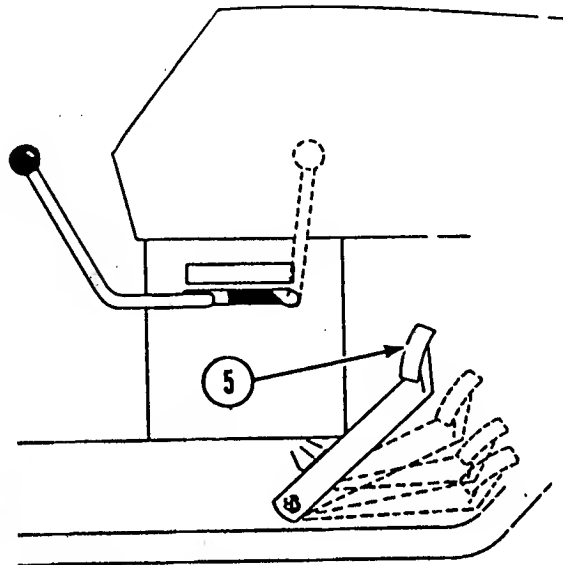

Figure 4
- 5 CLUTCH BRAKE PEDAL (Gear Shift Models) – Figure 4**
1. Lock the parking brake **6** by depressing the foot pedal Figure 4, and pushing the brake lock forward to lock the parking brake.